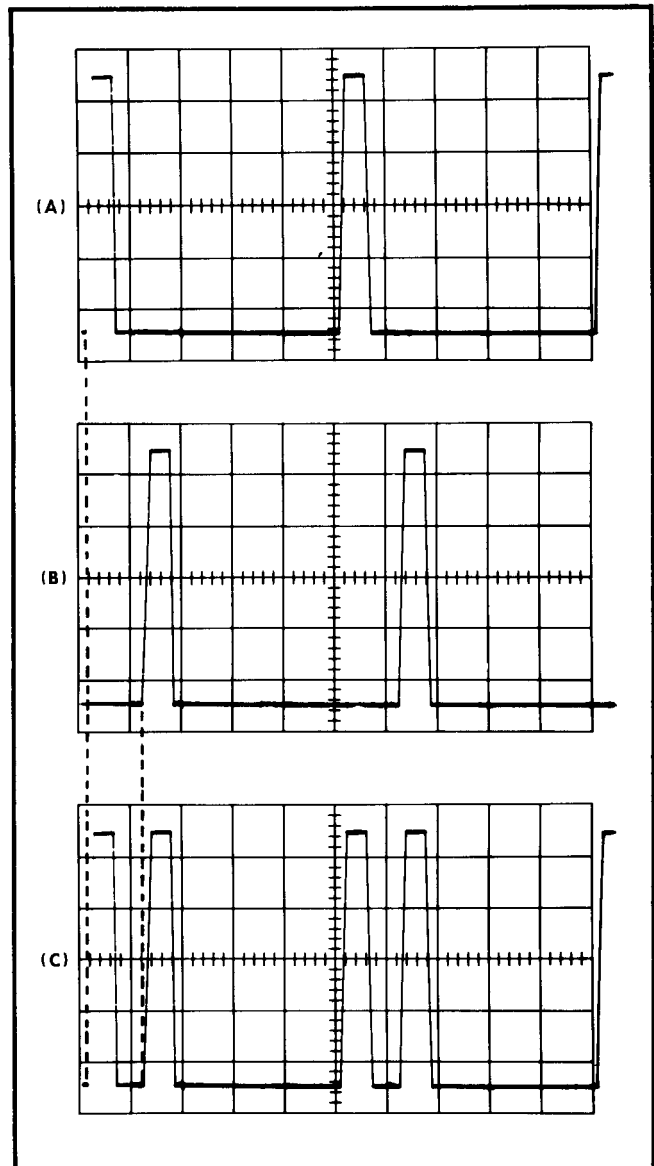

Fig. 2-6. Time comparison of output signals in three modes of operation: (A) Single (undelayed). (B) Delayed Single; and (C) Double.
31. Turn the MODE switch between the SINGLE, DLY'D SINGLE and DOUBLE positions. Note that the left pulse of each pair is at the position of the undelayed (Single) pulse, and the right pulse of each pair is at the delayed (Dly'd Single) pulse position (see Fig. 2-6).